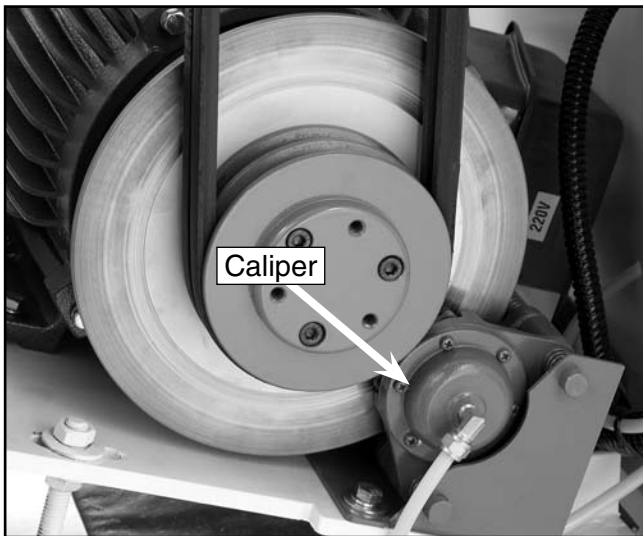

Figure 25. Disc brake.
3. The brake caliper is located underneath the rotor in **Figure 25**, which is attached to the motor arbor.